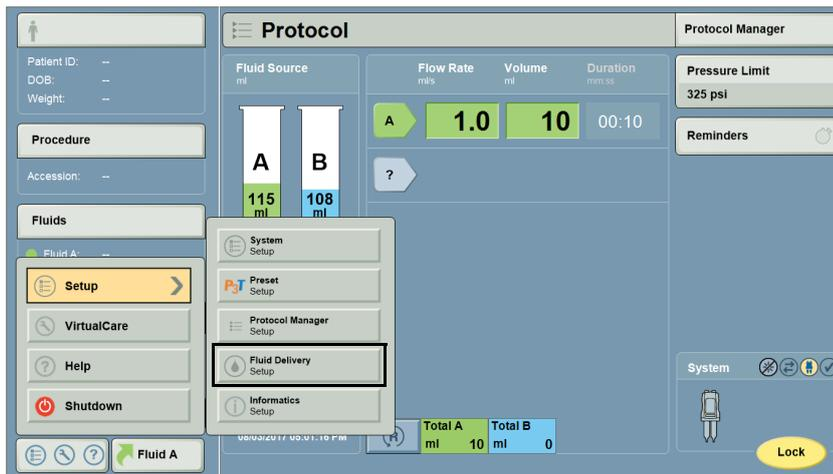

Figure 13 - 10: Setup Categories (Fluid Delivery Setup)
2. Select **Fluid Delivery Setup** (Figure 13 - 10: Setup Categories (Fluid Delivery Setup)).